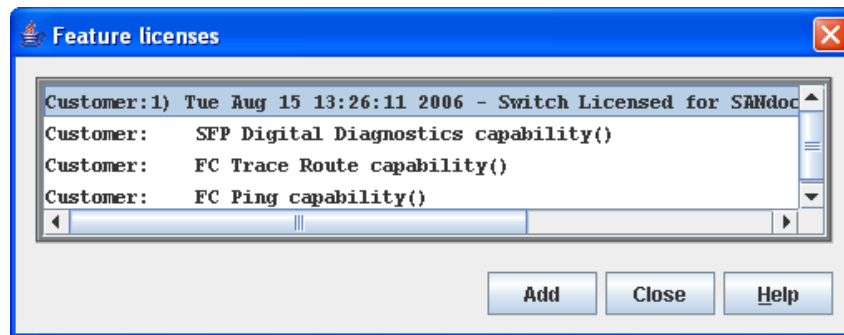

Figure 4-14. Feature License Key Dialog
3. Open the Switch Menu and select **Features** to open the Feature Licenses dialog shown in Figure 4-14.